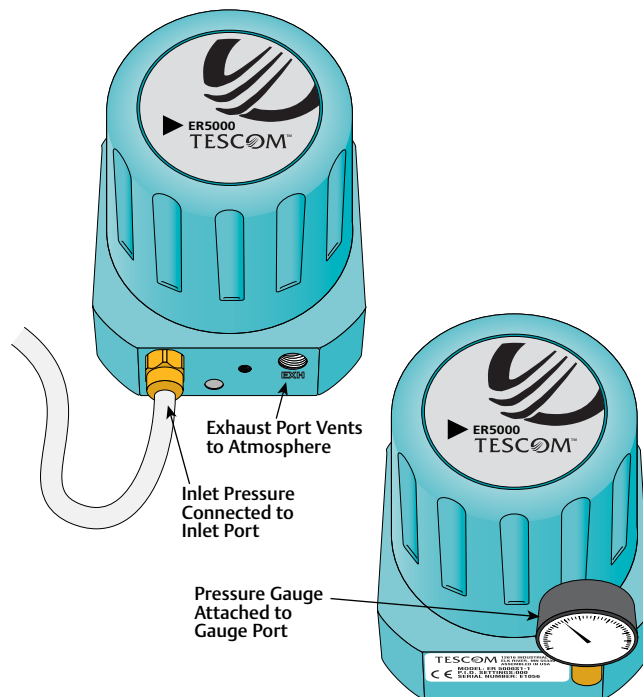

Figure 16: Pressure Connections
Connect the inlet pressure source to the Inlet Port, marked IN on the base of the ER5000. Refer to Figure 16.
- c. Leave the Gauge Port plugged to prevent leakage, or attach a pressure gauge, as shown in *Figure 16* on the previous page.